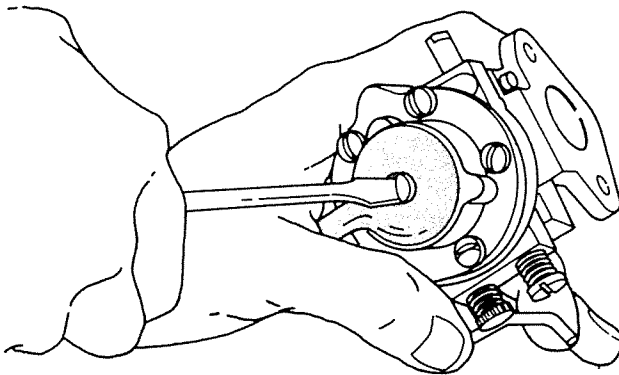

Figure 9. Removing Strainer.
1. Remove strainer cover, gasket and strainer. Inspect strainer and gasket for damage. Figure 9.